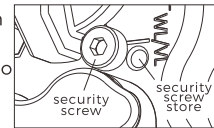

Fig 2
3. After operation, re-fix the security screw into the original position.(Fig 2)